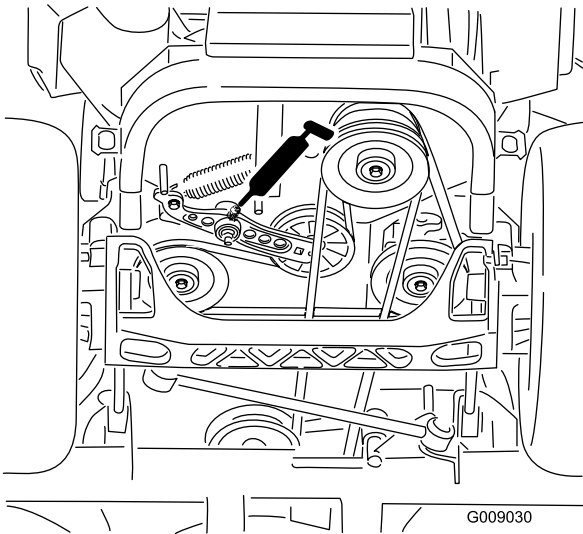

Figure 46
5. Grease the drive belt idler arm (Figure 46).